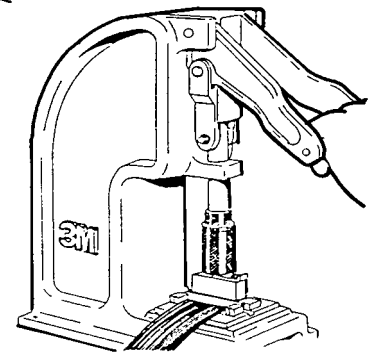

Figure 7.
6. Lower the assembly press handle fully to complete the connection. (See Figure 7)